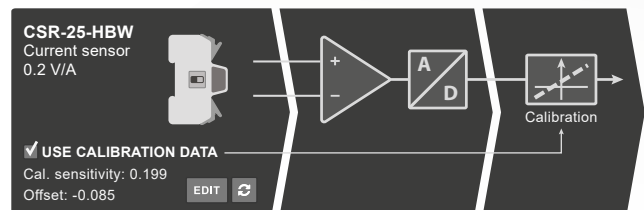

Fig. 12. Relevant section of the "analog I/O" configuration in Cockpit.
- Click on the "edit" button, as shown in Fig. 12.